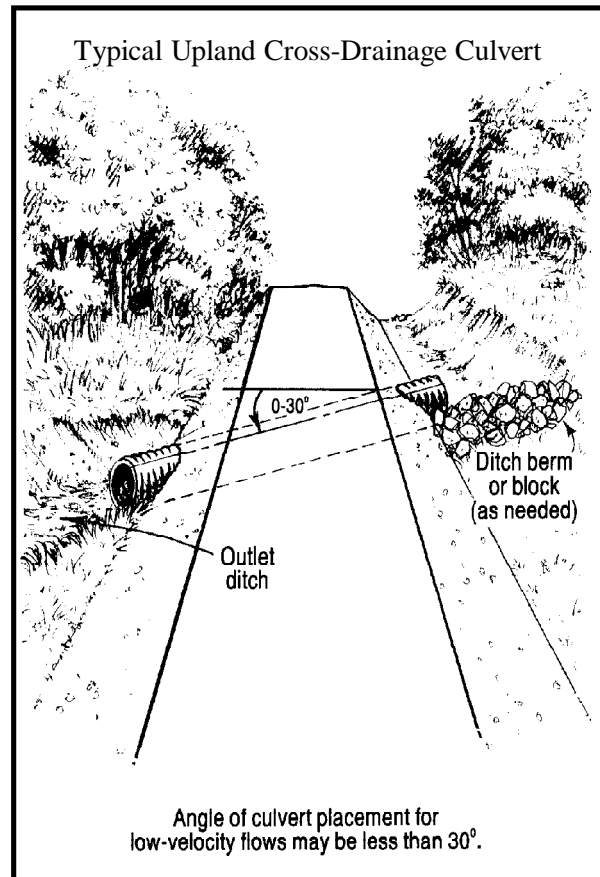

Figure ROAD-11
**U** Install culverts at grades 2% more than the ditch grade and angled at least 30 degrees from perpendicular to the flow of water to improve inlet efficiency. See Figure ROAD-11.